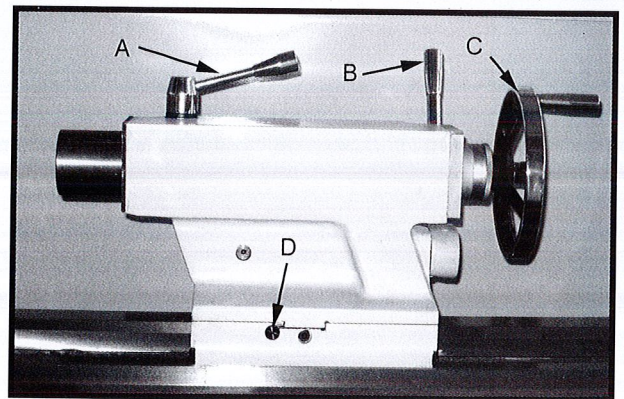

Fig.14
16. **Tailstock Quill Clamping Lever:** (A, Fig.14) Located on the tailstock. Rotate clockwise to lock the sleeve. Rotate counter-clockwise to unlock.
17. **Tailstock Clamping Lever:** (B, Fig.14) Located on the tailstock. Lift up to lock. Push down to unlock. If the tailstock has a heavy load, tighten the hexagon head at right side of the tailstock for auxiliary locking.
18. **Tailstock Quill Traverse Hand Wheel:** (C, Fig.14) Rotate clockwise to advance the quill and counter-clockwise to retract it.
19. **Tailstock Off-Set Adjustment:** (D, Fig.14) Two hex socket cap screws located on the tailstock base are used to off-set the tailstock for cutting tapers. Loosening one screw while tightening the other will off-set the tailstock. Do not clamp the tailstock lock handle when adjusting.